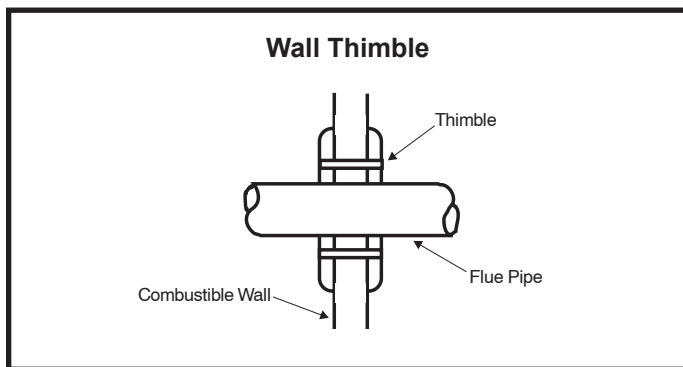

Figure 6
- The flue pipe may pass through a wall where provisions have been made for a thimble as specified in the Standards of the National Board of Fire Underwriters (see Figure 6).